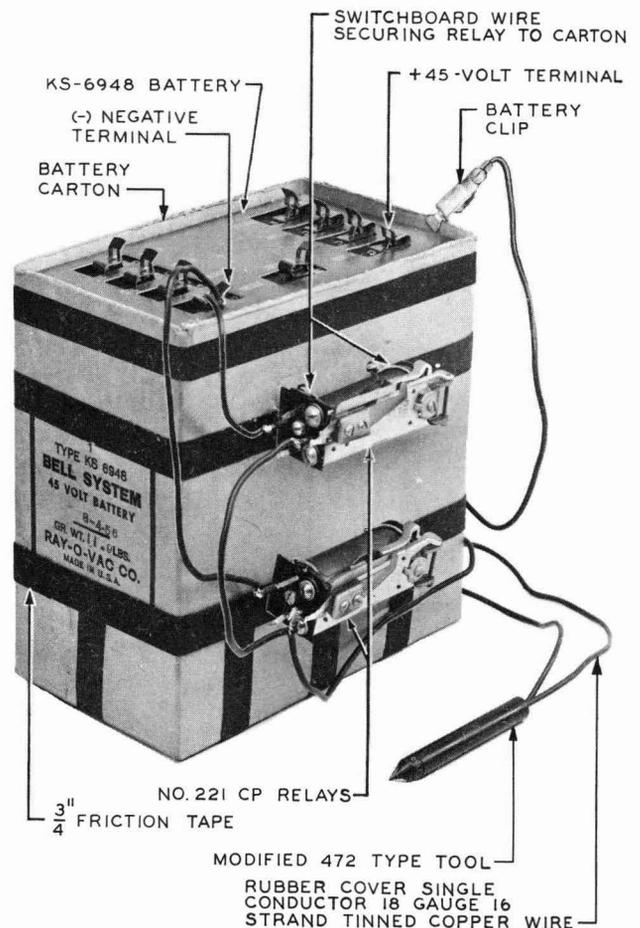
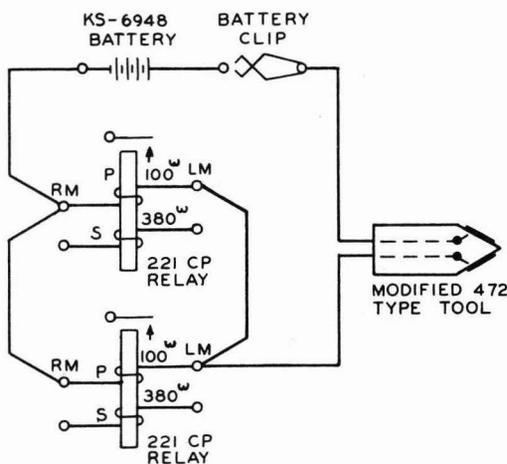

Fig. 21 – Equipment for Arc Method of Cleaning VON Contacts 3 — 4 on Digit-absorbing Selector, SD-32183-01
Fig. 22 - Wiring Diagram for Arcing Equipment Shown in Fig. 21
4.17 Arcing Equipment Required: The equipment shown in Fig. 21 is required for the arc cleaning method and should be prepared locally. This equipment is wired as shown in Fig. 22 and provides means of producing an arc across the VON contacts when the contacts are broken. Referring to Fig. 21 and 22, two No. 221CP relays are connected in parallel between a KS-6948 battery and a modified 472-type tool. The modified tool is used to connect the arcing circuit across the VON contacts at the test jack of the switch. This equipment may be prepared as follows.
(a) In order to make the arcing equipment a convenient self-contained unit, a KS-6948 battery carton may be used to mount the relays as shown in Fig. 21. To prepare the carton for this purpose, remove the four cover flaps and reinforce the sides and bottom of
Skin two 13-foot lengths of No. 18 rubber-covered wire approximately 3/8 inch from each end. Solder one end of each lead to a terminal of the tool tip. Pass both leads through the shell of the tool and screw the shell on the tip. Using the No. 18 wire, wire the equipment as shown in Fig. 22 connecting a battery clip to one of the 13-foot leads from the modified tool.